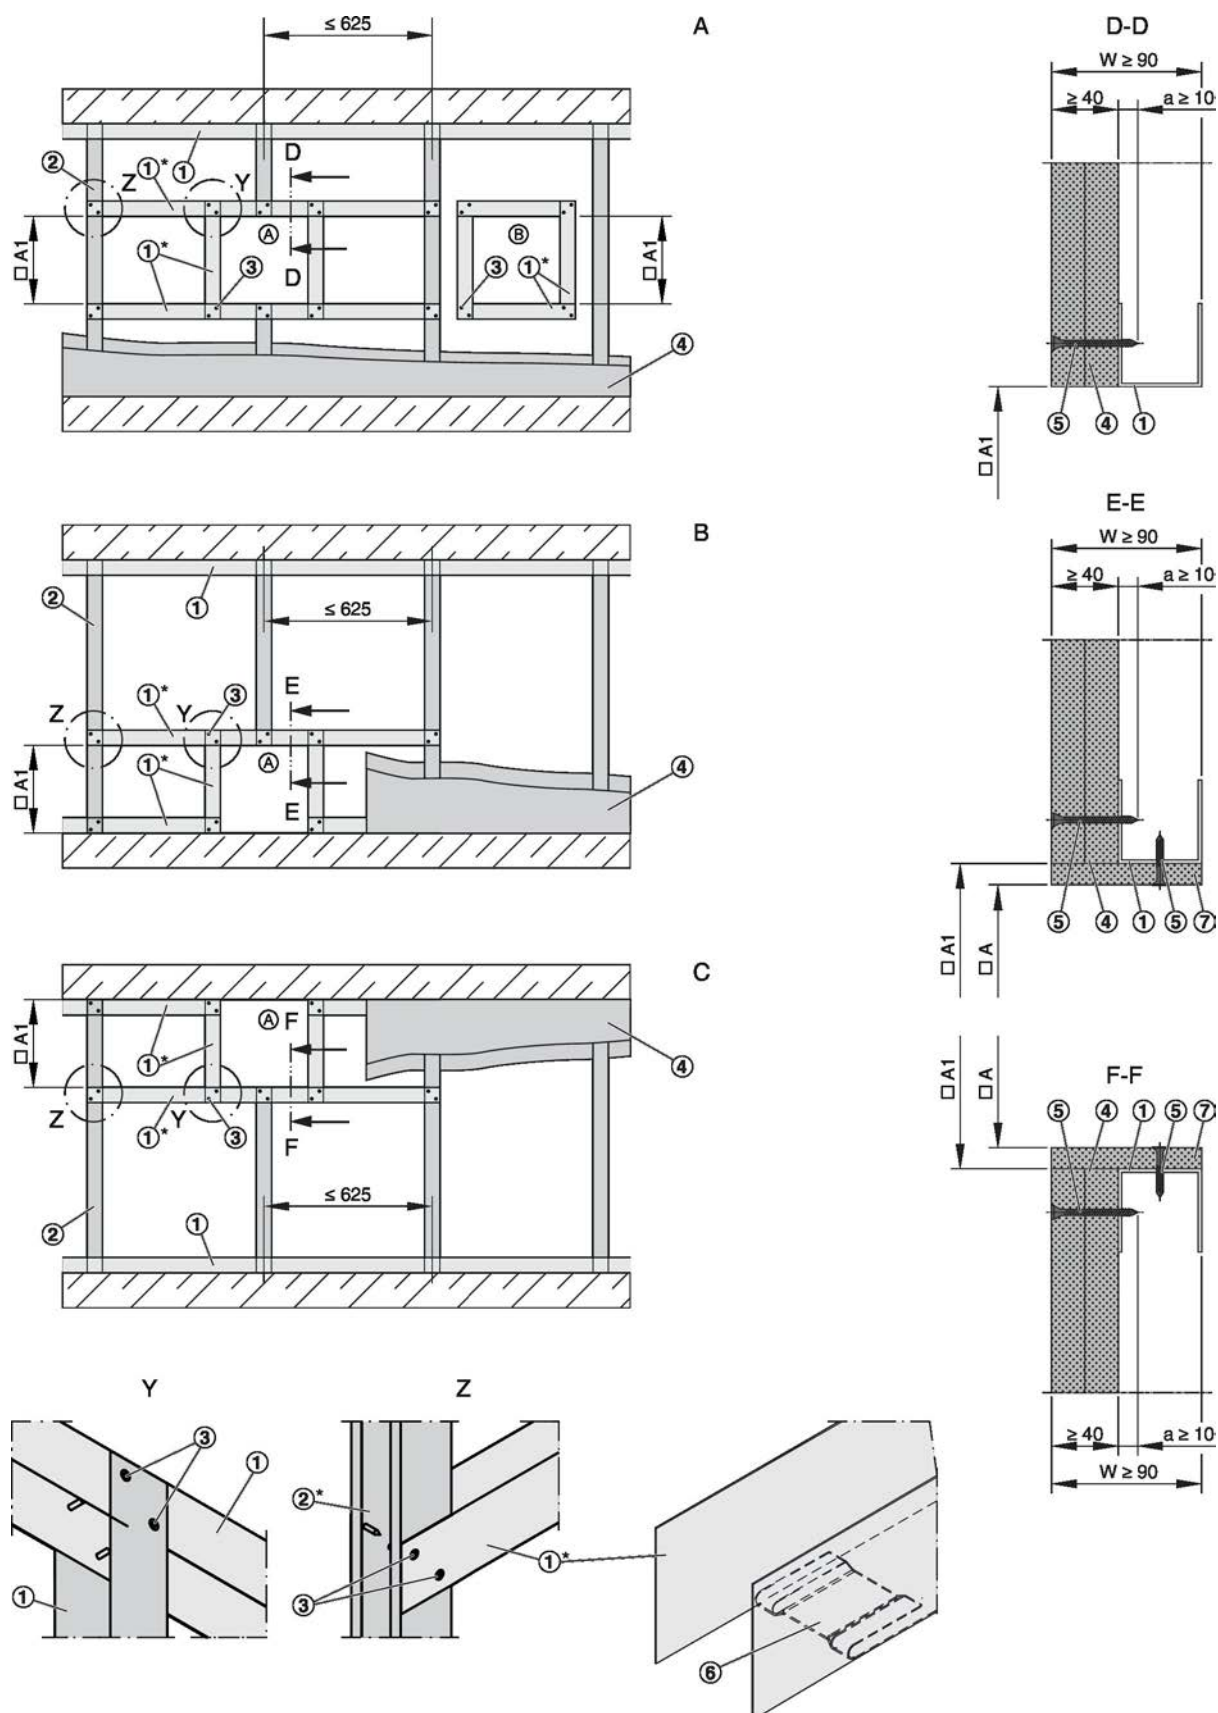

Fig. 54: Shaft walls with metal support structure and cladding on one side
- Erect the shaft wall according to the manufacturer's instructions and create an installation opening, see Fig. 54